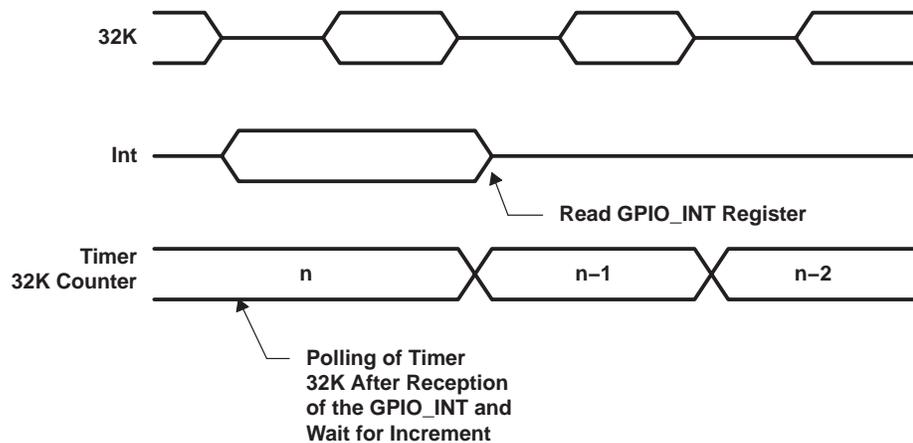

Figure 7. MPUIO Waveforms
- Polling the timer 32k counter until there is an increment. See the waveforms in Figure 7, which describe the procedure.